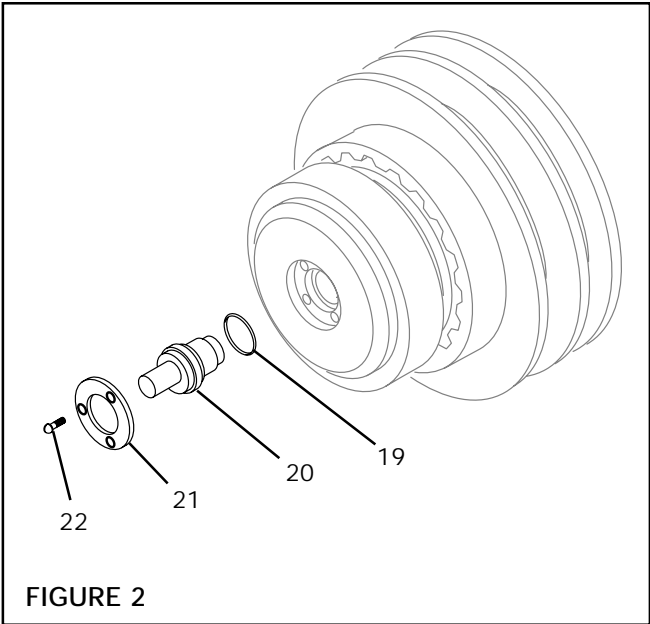

FIGURE 2
2. Remove three Slotted Pan Head Screws (Item 22) (See Fig. 2).
3. Remove Retaining Washer (Item 21) (See Fig. 2).
4. Remove Rotary Air Union (Item 20), and Rotary Air Union Seal (Item 19) (See Fig. 2).